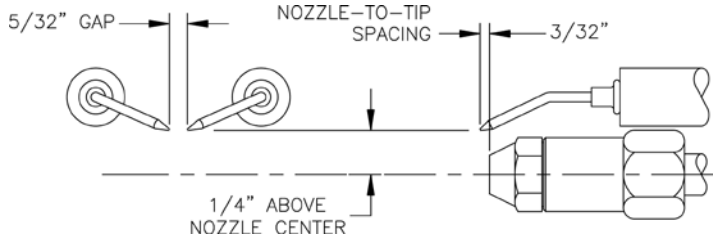

Figure 34: Electrode Tip Gap and Spacing
- a. Verify nozzle size, gun setting and positioning of electrodes. See Figures 34 and 36 and Beckett NX Burner Specifications, Table 10 at the end of this manual.
- h. Check electrodes to comply with dimensions shown in Figure 34. For adjustment, loosen the electrode clamp screw and slide/rotate electrodes as needed. Securely re-tighten the clamp screw when finished.